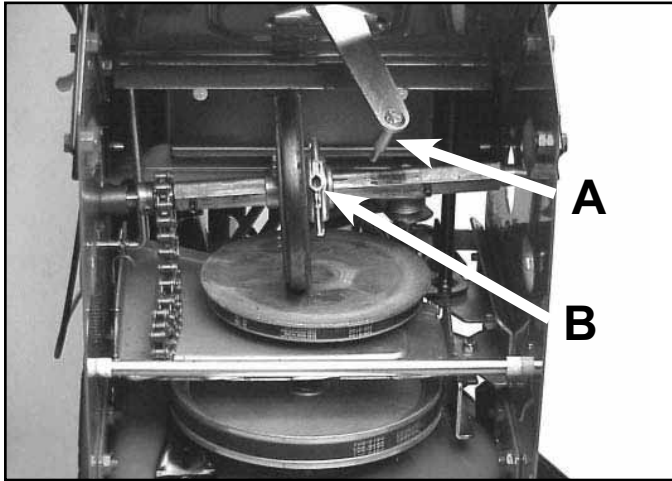

Fig 107 MVC-1002X.jpg
10. Now the shift rod bracket and hex shaft can be moved to separate the shift rod from the trunion (Fig. 107).